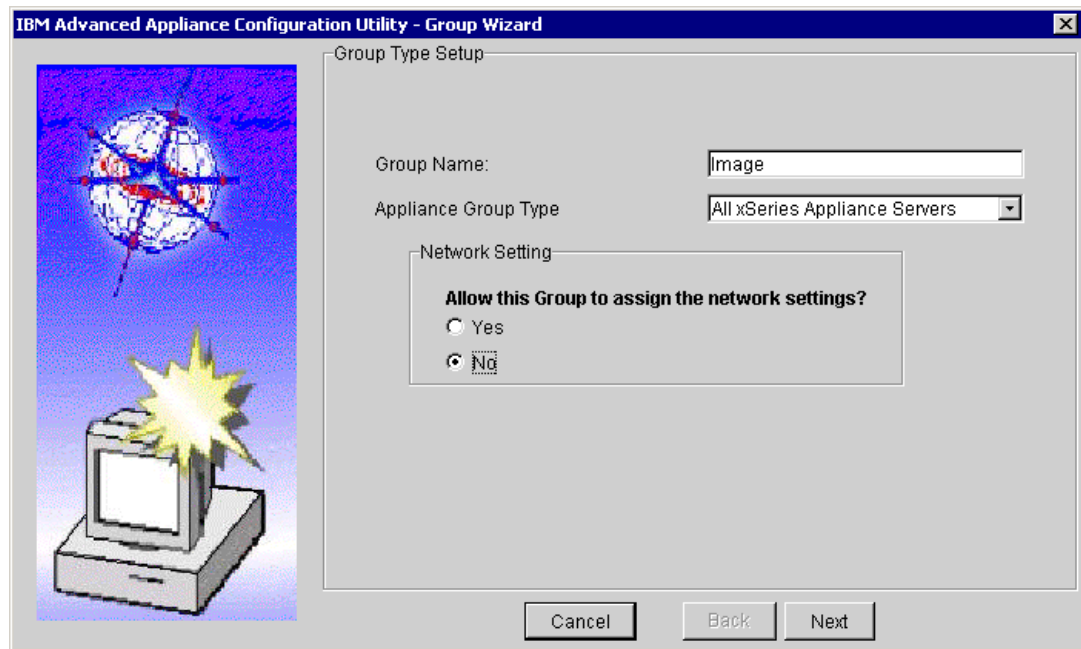

Figure 2-12 Group settings
1. Create a group using IAACong by clicking **Group -> Create Group**. You will see the window shown in Figure 2-12: